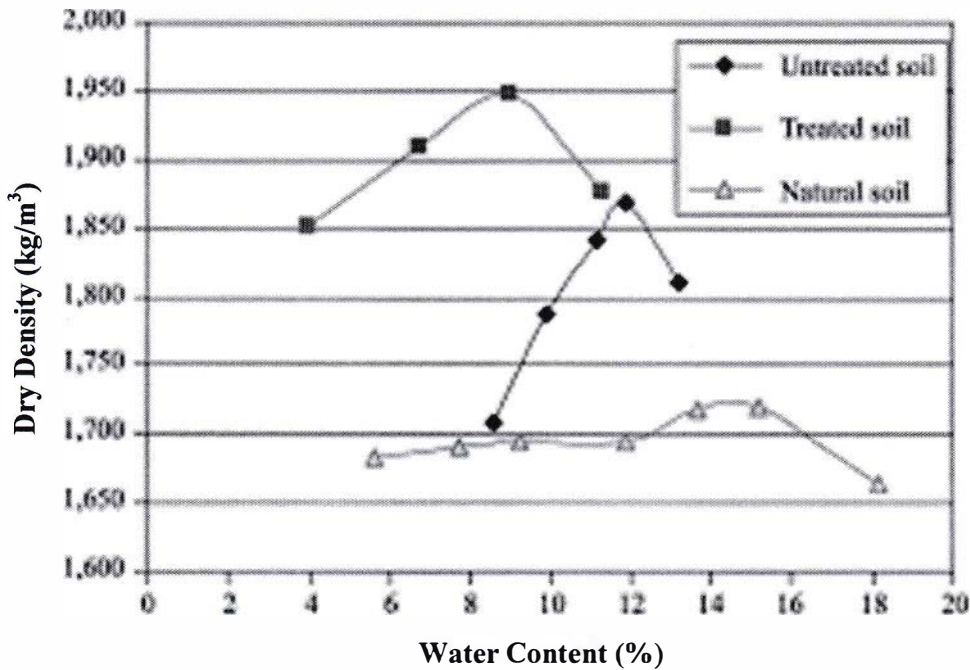

Fig.3
4. The compaction curves obtained from the analysis of standard Proctor test results are given in Fig. 3.